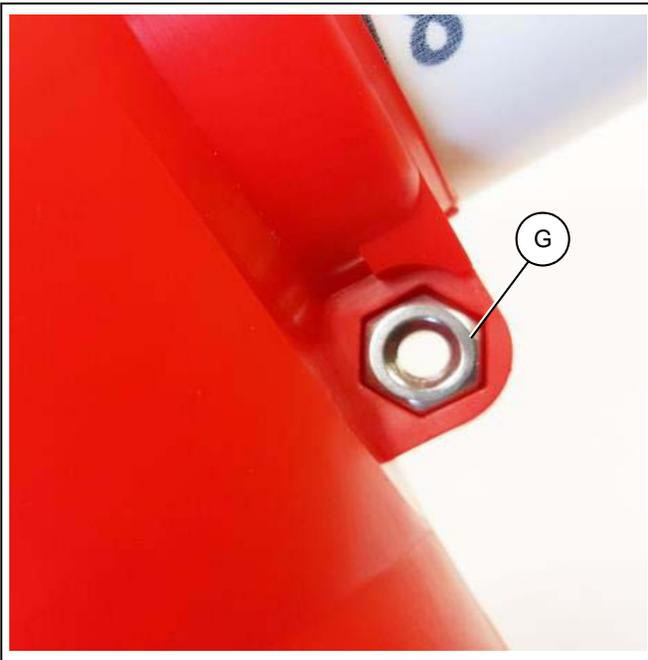

Figure 5R
8. Insert a hex nut (G) into each of the four hexagon shaped sockets on the drop halves and fasten the halves together using screws. (See Figure 5R.)